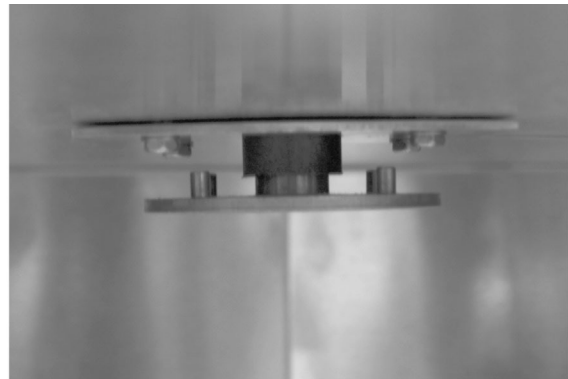

**Fig. 2**
3. Lift up on bottom plate and remove from the four shoulder bolts. Remove bottom plate from oven cavity. See figure 2.